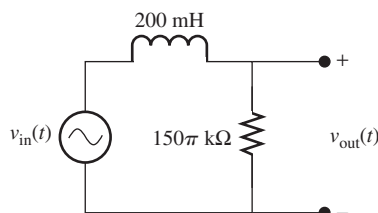

FIGURE P7.2 Circuit for Problem 7.2.
7.2 (B) Find the transfer function for the filter of Figure P7.2.